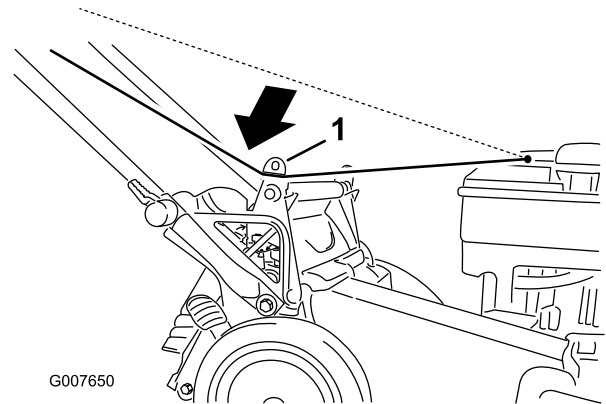

Figure 21
1. Route the starter rope around the lower-rope guide (Figure 21).